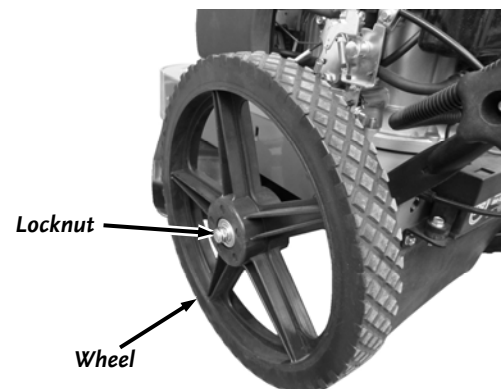

Figure 37
2. Loosen and remove the Locknut with the required Wrench (**Figure 37**).